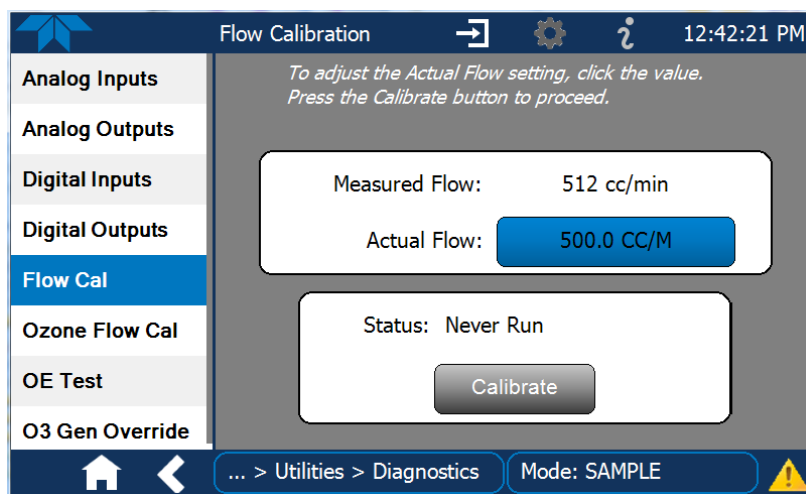

Figure 5-8. Flow Calibration Menu
1. In the Utilities>Diagnostics>Flow Cal menu (Figure 5-8), edit the Actual Flow value by inputting the reading from the external flow meter obtained in the corresponding check of the flow to be calibrated.